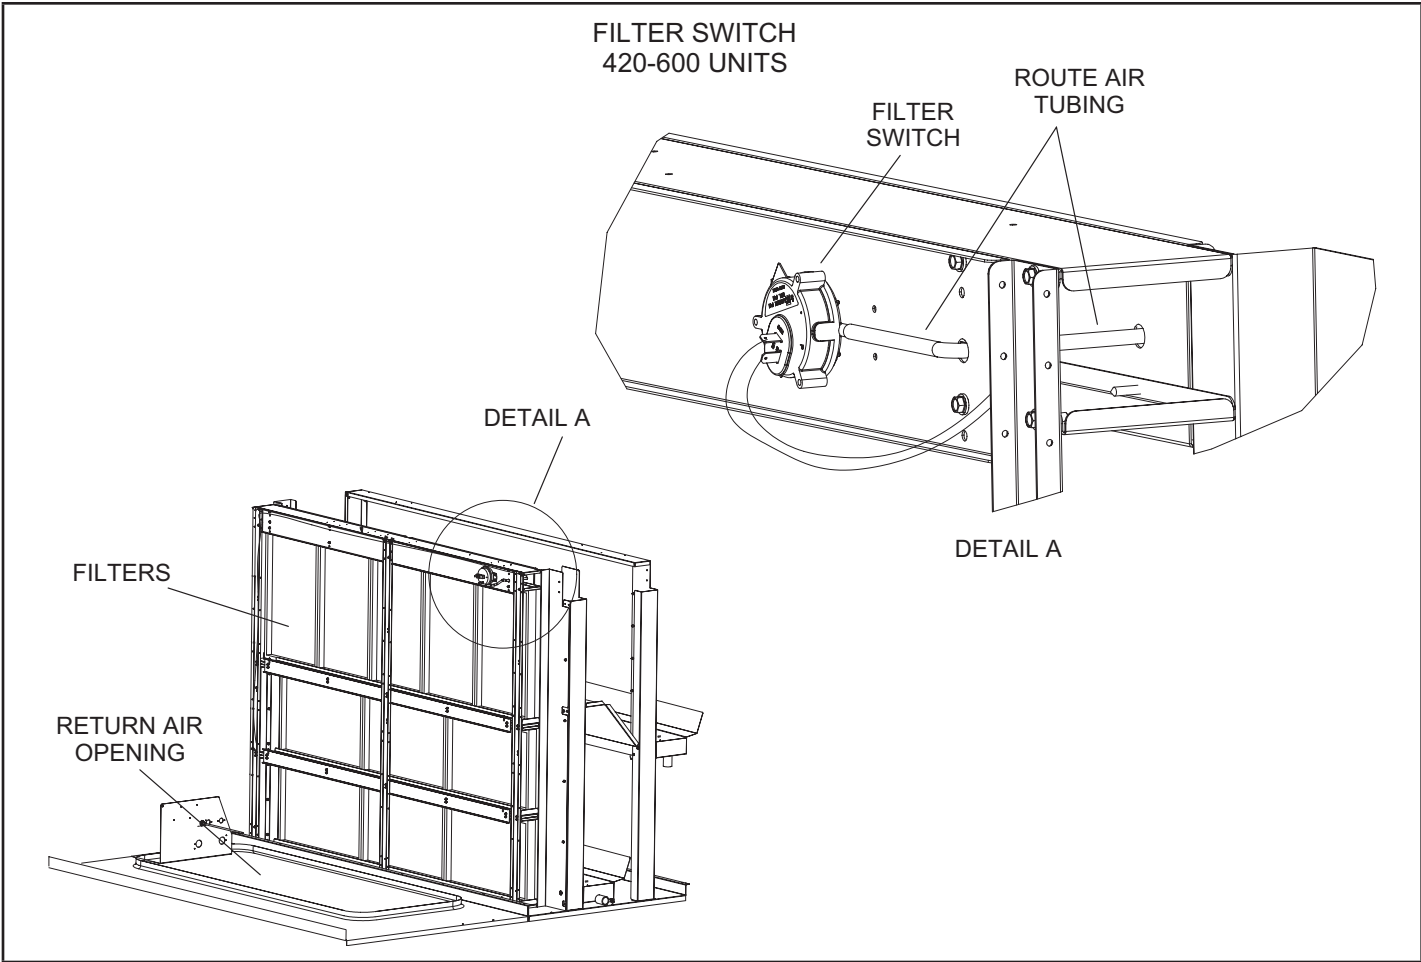

FIGURE 4
- 2 - Install filter switch in location shown in FIGURE 1 for 024-074 units, FIGURE 2 for 092-150 units, FIGURE 3 for 156-300S units and FIGURE 4 for 420-600 units.